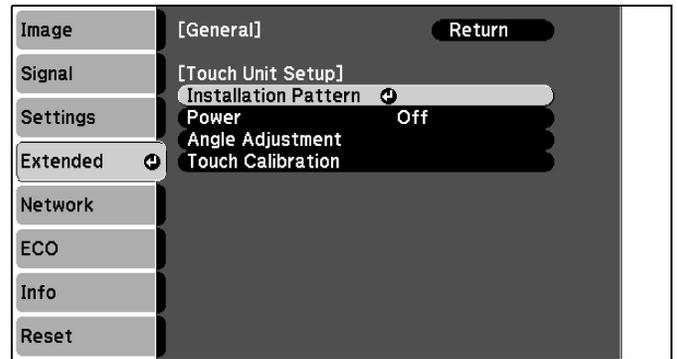

Figure 19
5. Select **INSTALLATION PATTERN**. (See Figure 19)